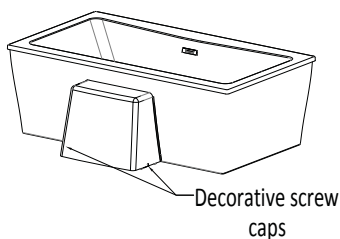

Figure 9
- Place the AEC cabinet only in the front of the bath skirt opening. The center of the cabinet should be aligned with the center of the opening. The extrusion trim can be slightly moved to help fill any gaps between the cabinet and the bath skirt. Mark on the floor, the location of the (2) decorative screw caps installed on the cabinet. **See Figure 9**